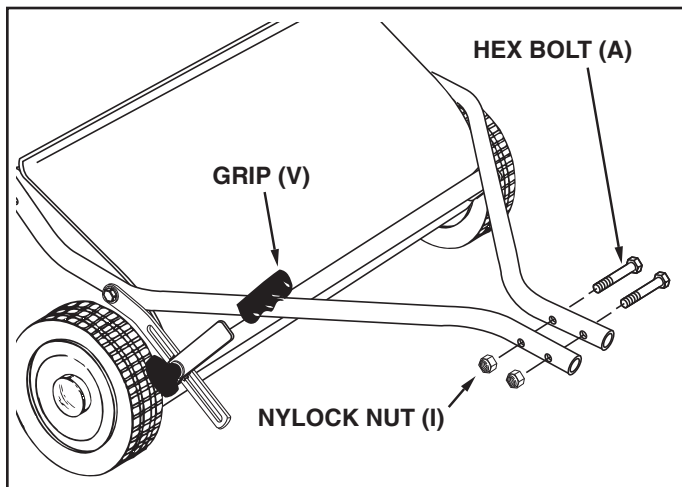

FIGURE 8
STEP 9: (SEE FIGURE 8)
- Fasten the hitch tubes together using two hex bolts (A) and nylock nuts (I). **Do not tighten yet.**
STEP 10: (SEE FIGURE 8)
- Assemble the grip (V) onto the end of the height adjustment handle.